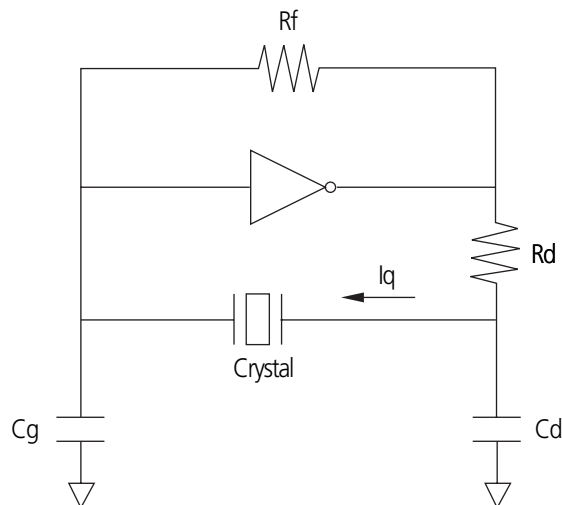

Fig.3 Example Method of Confirming a Drive Level
Since a crystal unit performs mechanical vibration, too much vibration may lead to unstable oscillation frequency, and finally to destruction in the worst case. When designing an oscillation circuit, the level of drive should be examined so as to use an oscillator below the level specified by our company. Fig.3 shows an example method of confirming a level of drive. The method employs a current probe to measure the crystal oscillator current. In this case the level of drive is as follows :
- (1) Crystal units are designed to have lower limitable level of drive, of 100uW and below. Prior to use, the crystal current should be examined in an actually mounting circuit. (See Fig.3)